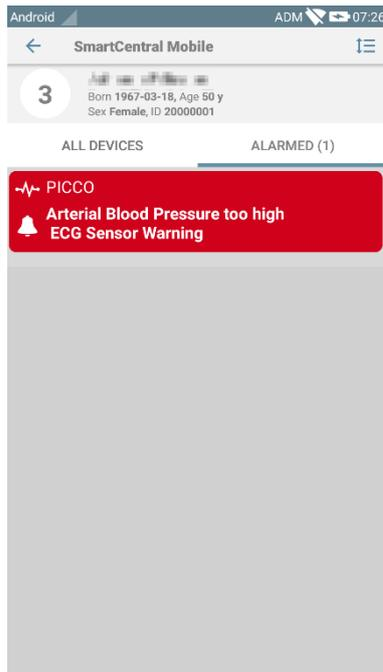

Fig 145
- Touch the notification to directly access the relevant patient (see an example in Fig 145).